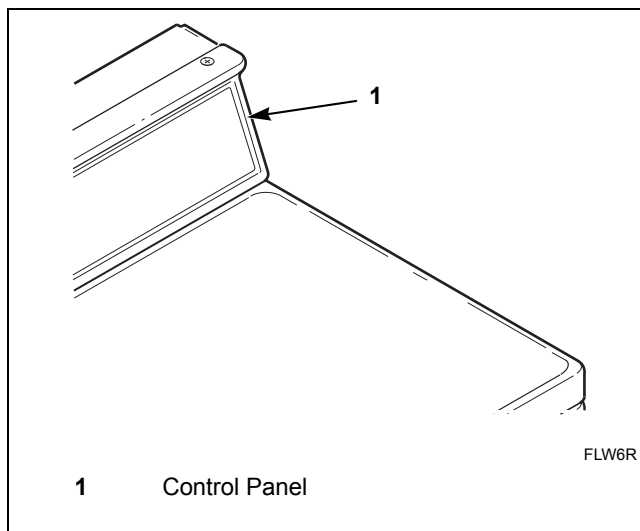

Figure 26
1. Open control panel. Refer to *Figure 26*.